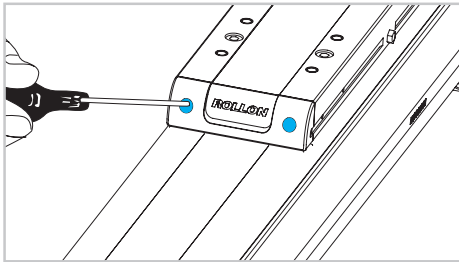

Fig. 2
- 1) Remove the front panel on both ends by untightening the front screws (Fig.2).